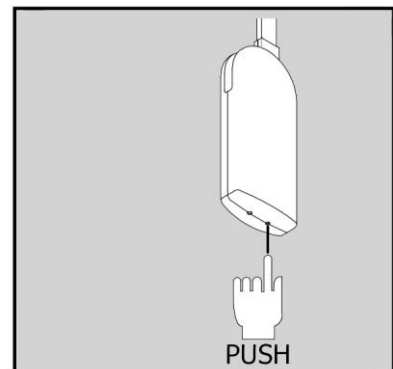

Fig. 22
- 1 - Press and hold the programming button (Fig. 22) for 5 seconds; when released, the control unit will “BEEP” twice.
If you want to delete all the remote controls, press and hold the programming button (Fig. 22) for 10 seconds; when this button is released, there will be three consecutive “BEEPS”, indicating that all the synchronised remote controls have been deleted. The desired remote control(s) can then be returned.